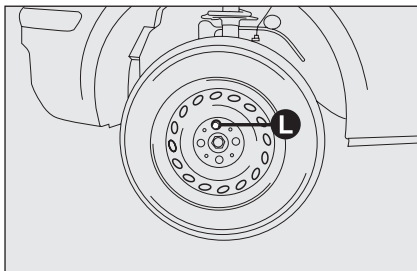

fig. 5
- for versions with wheel cap, remove the wheel cap after loosening the 3 fastening bolts and finally loosen the fourth bolt **L-fig. 5** and extract the wheel;